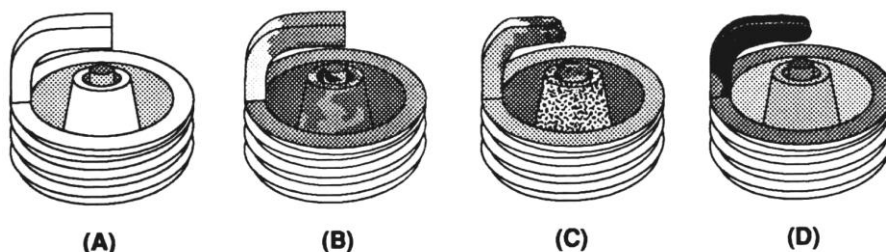

Figure 12 Spark Plug Condition
1. Perform a dynamometer pull or a full throttle pass down the racetrack. Note the power reading or vehicle mph (not e.t.). Examine the spark plugs for an indication of lean or rich nitrous/fuel conditions (refer to Figure 12 for tips on reading the spark plugs). For this application, the air/fuel mixtures at WOT tend to be very rich in stock form. You may wish to examine a plug after a NO-nitrous pass or dyno pull for comparison purposes.